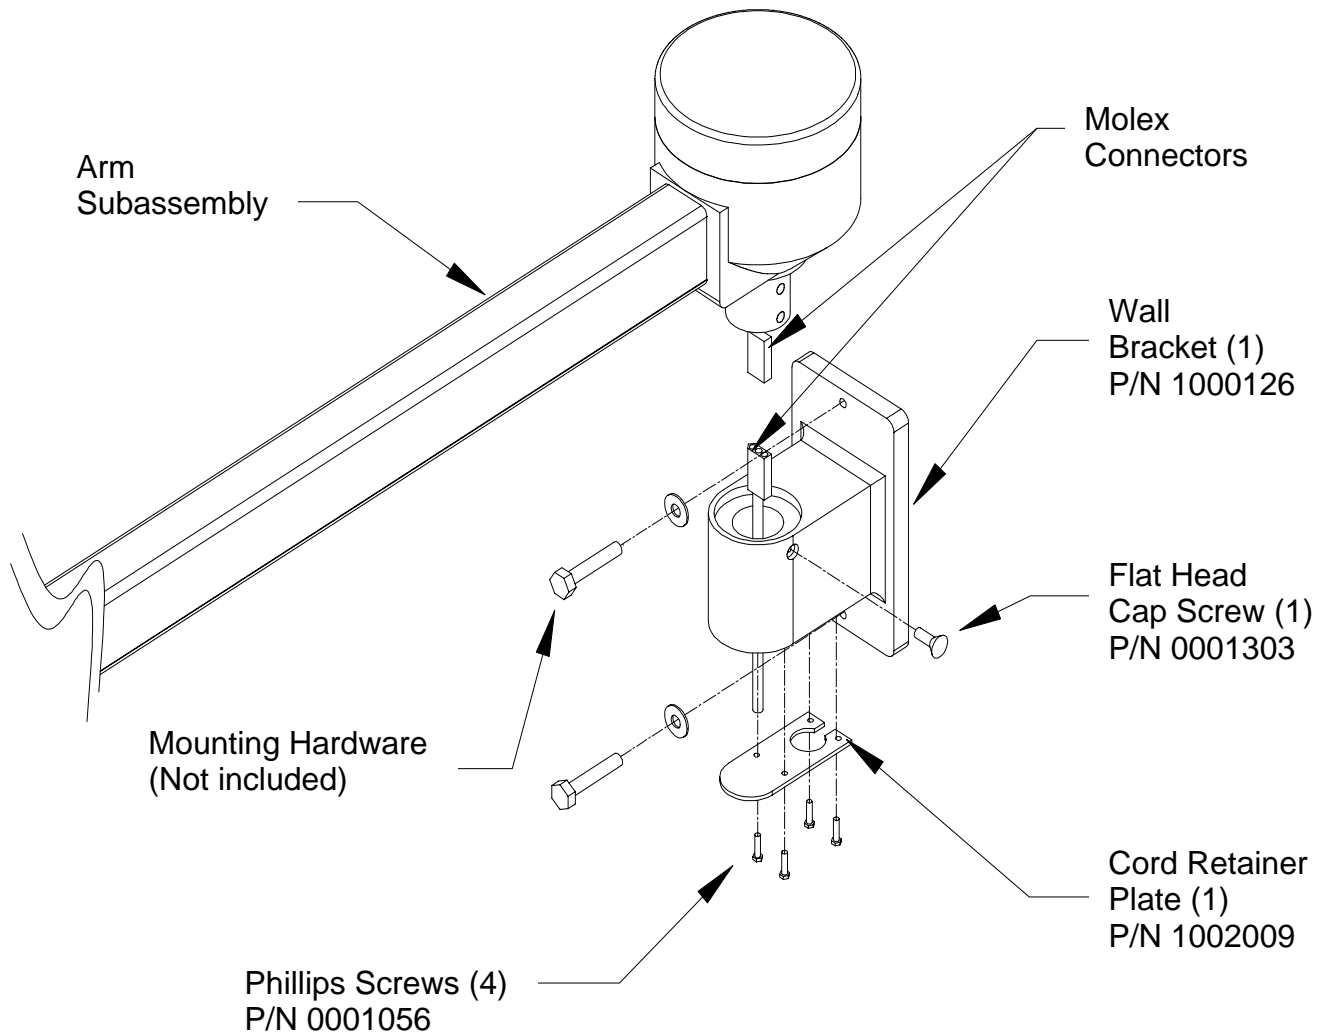

FIGURE 11: Wall Mount Installation
- Attach the wall bracket to the desired location using two  $\frac{5}{16}$ " Diameter x 2  $\frac{1}{2}$ " long (minimum length) lag screws or bolts with washers (hardware not provided). See figure 11.